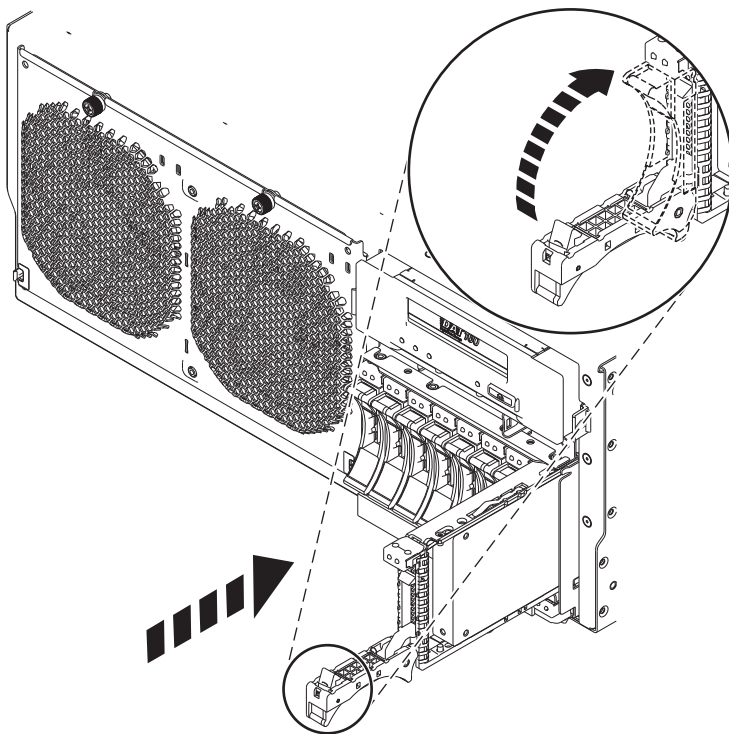

Figure 35. Installing a disk drive in the 8202-E4B, 8202-E4C, 8205-E6B, or 8205-E6C
12. When the service indicator starts flashing, slide the disk drive all the way into the system or expansion unit, and push the disk drive handle (A) in until it locks, as shown in Figure 35.